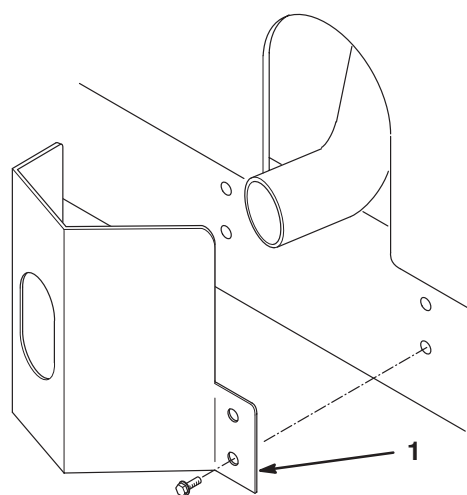

Figure 4
1. Position the exhaust guard around the muffler while aligning the mounting holes with the holes in the frame (Fig. 4).
2. Secure the exhaust guard to the frame with 4 self-tapping screws (Fig. 4).